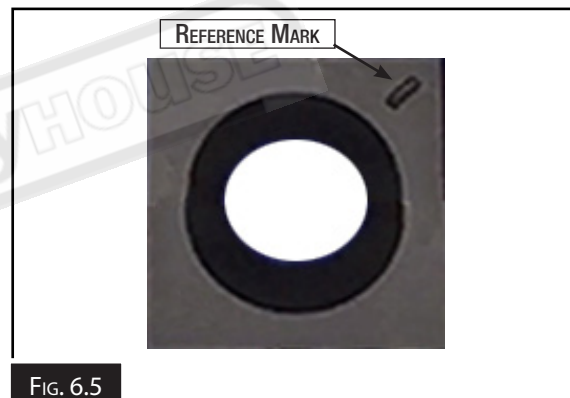

FIG. 6.5
6. Replace the insert so that a fresh cutting edge faces outward. If all four insert cutting edges have been used, replace the insert with a new one. Always position the reference mark (Fig.6.5) on the insert in the same position when installing a new insert to aid in the rotational sequencing.